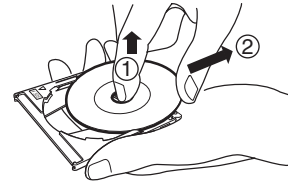

Fig. 6-2a
- 1) Insert your finger into the hole in the center of disc and lightly lift it up (in the direction of arrow ①). (Fig. 6-2a)
- 2) Hold the disc at its edge and center hole, and remove it in the direction of arrow ② (obliquely upward).